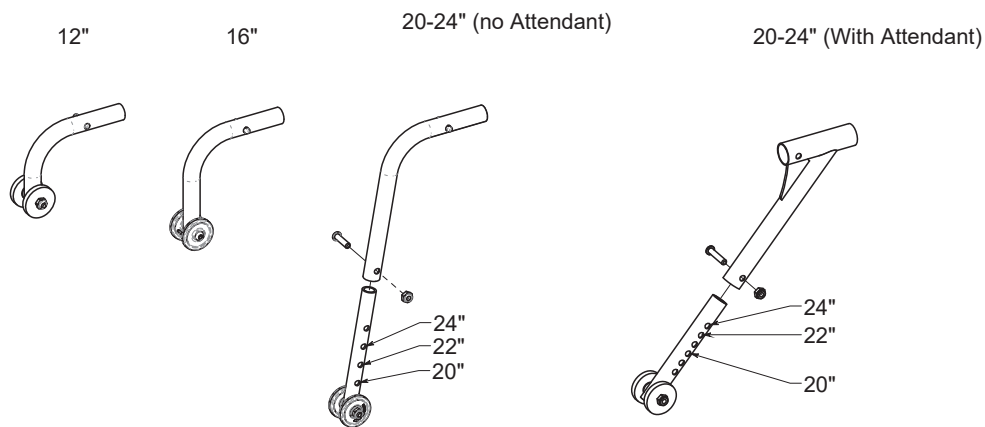

Figure 14.28: Anti-tipper positioning
1. Using a 7/16" open end wrench, securely hold the detent ball end of the axle. (See Figure 14.28)
1. Using a 7/16" open end wrench, securely hold the detent ball end of the axle. (See Figure 7.1 Figure 14.28)